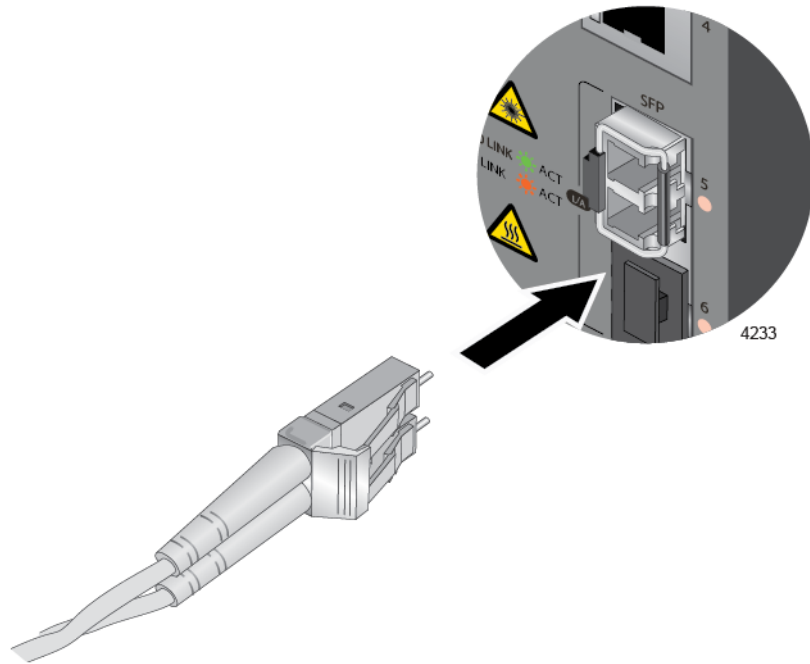

Figure 29. Connecting a Fiber Optic Cable to an SFP Transceiver
6. Connect the fiber optic cable to the transceiver. The connector on the cable should fit snugly into the port, and the tab should lock the connector into place. Refer to Figure 29 on page 77.